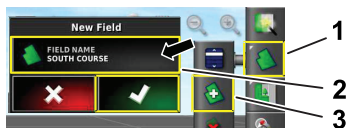

Figure 5
3. Press the field name icon, type in the field name, and press the green check box icon (Figure 5).